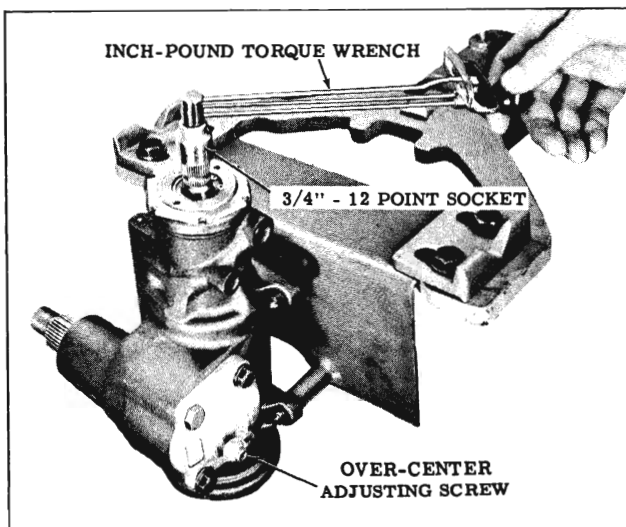

Fig. 4-71 Checking Over-Center Preload
- Rotate the lower shaft from one stop to the other to count the number of turns and locate the center of travel, then check the combined ball and thrust bearing preload by rotating the torque wrench through the center of travel. (Fig. 4-71) Note the highest reading.